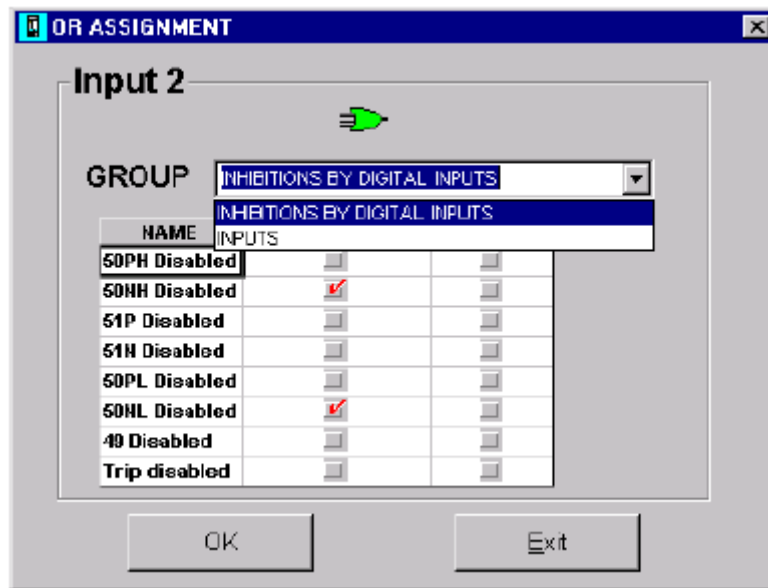

Figure 4–13: OR ASSIGNMENT
- **OR:** activates the **OR button** for the I/O configuration column (see previous point). The window that appears when the OR button is pressed can be seen in Figure 4–13: